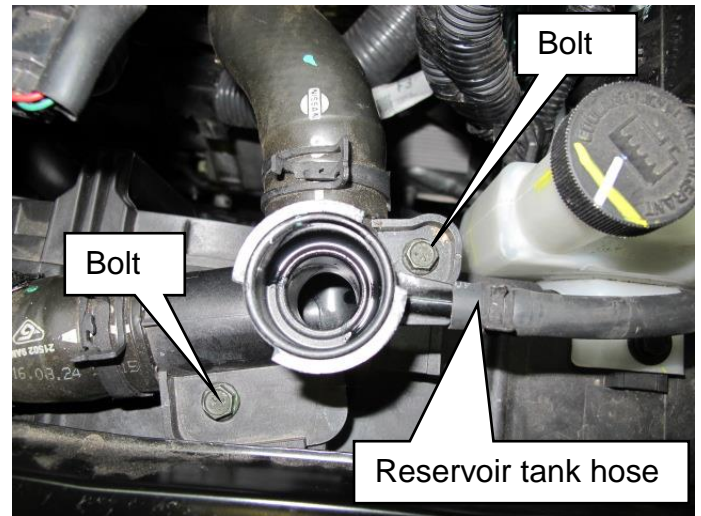

Figure 16
22. Disconnect the reservoir tank hose from the filler neck and the (2) filler neck 10 mm retaining bolts (Refer to Figure 16).